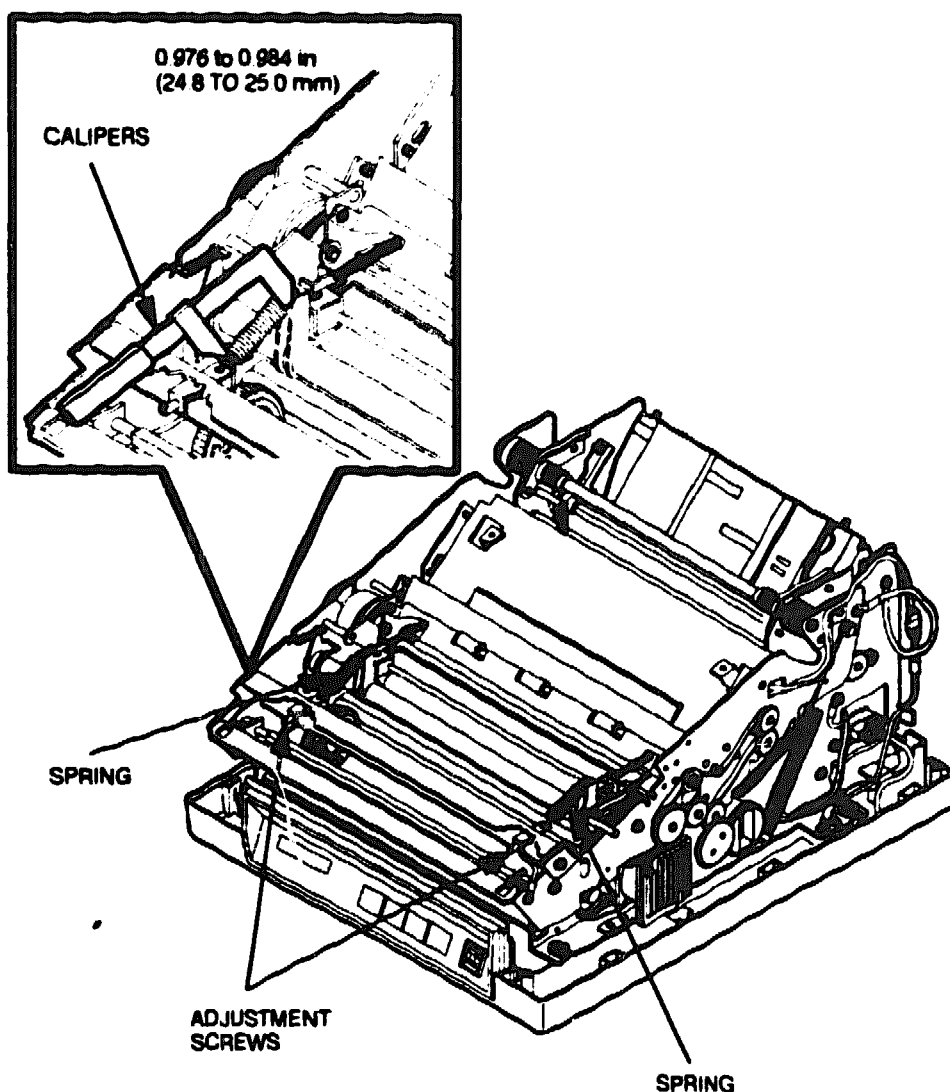

Figure 4-23 Pinch Roller (RII) and Feed Roller (RII) Friction Measurement
3. As shown in Figure 4-23, use a pair of calipers to measure the distance between the top and bottom coils on the left and right upper unit tension stay springs. The coil length of the springs should be between 0.976 to 0.984 in. (24.8 to 25.0 mm) with a tolerance of ± 0.010 in. (0.254 mm).